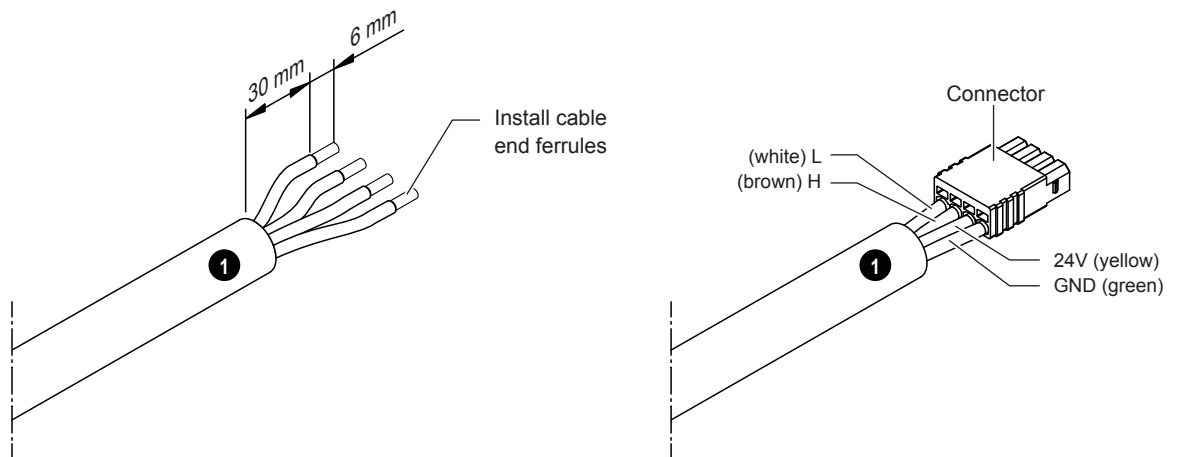

Fig. 26: Prepare CAN BUS cable for SPA Display connection
3. Cut the CAN BUS cable(s) to length. Prepare the cable end(s) as shown in Fig. 26 (SPA Display connection) or Fig. 27 (connection cable Condair Delta SPA Control Box to Condair Omega), then connect the prepared cable ends to the the CAN BUS connectors.